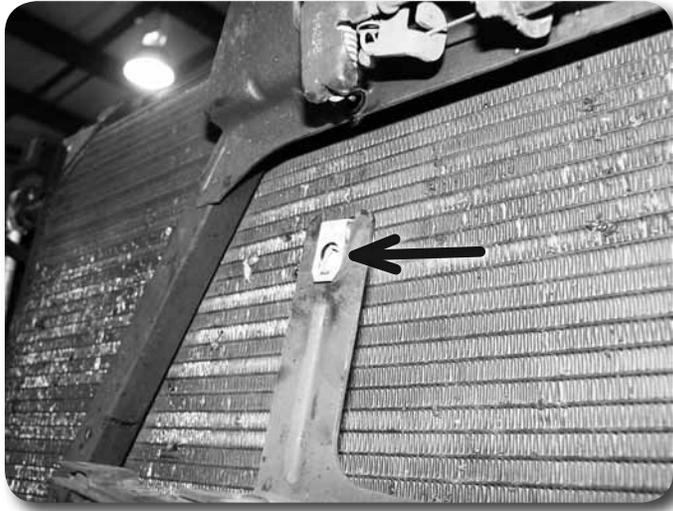

Figure 22
43. Carefully remove the two nut clips from the top of the transmission oil cooler, turn them around and reinstall so they are now facing the opposite direction **Figure 22**.